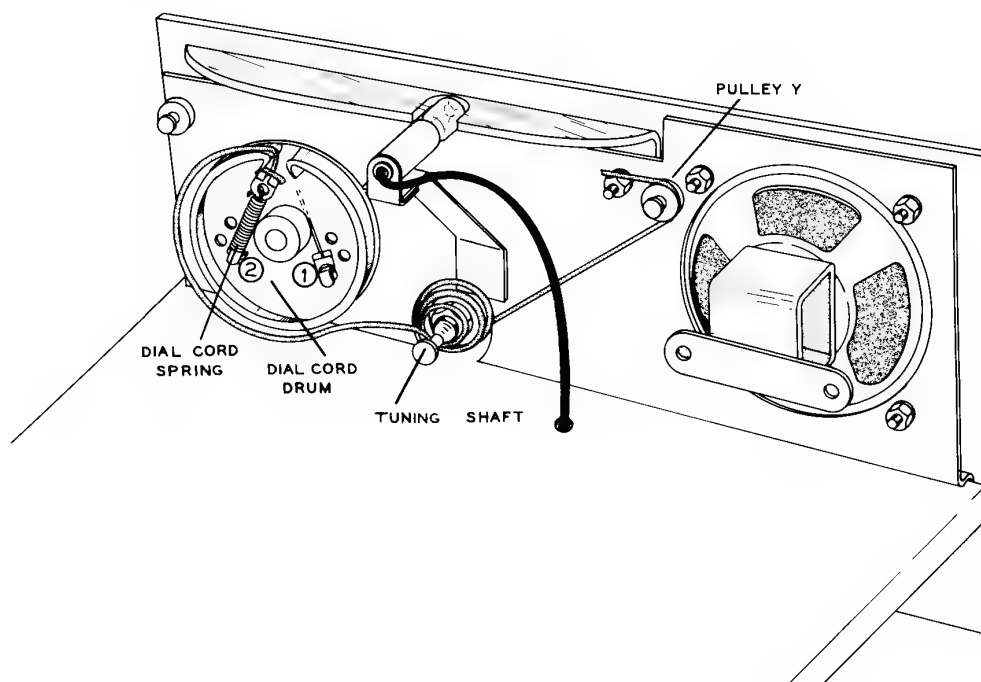
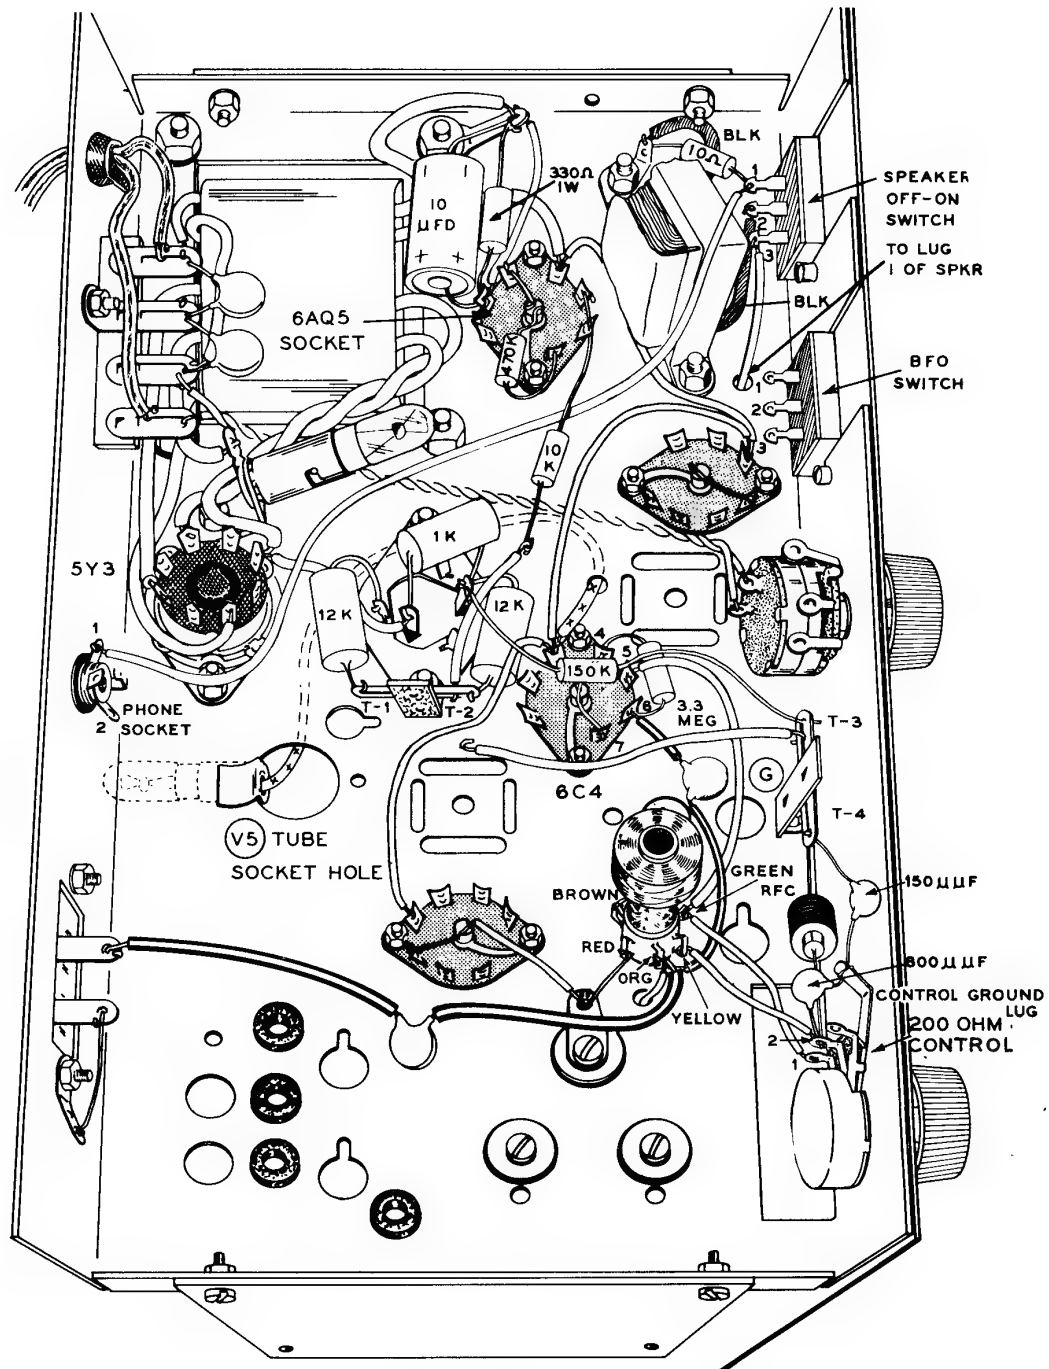

Figure 3R (2)
Figure 3S
Refer to Figure 3R (1) for the following steps.
Refer to Figure 3R (2) for the following steps.
- (C) Now route the dial cord below the tuning shaft, and wrap it around the tuning shaft three times.
- (✓) Remove the pilot lamp socket from V5 tube socket hole (see Figure 3S). Now mount it on the dial light bracket so that the #47 lamp fits into the slot in the plastic dial window as it is shown in Figure 3R.
Refer to Figure 3S for the following steps.